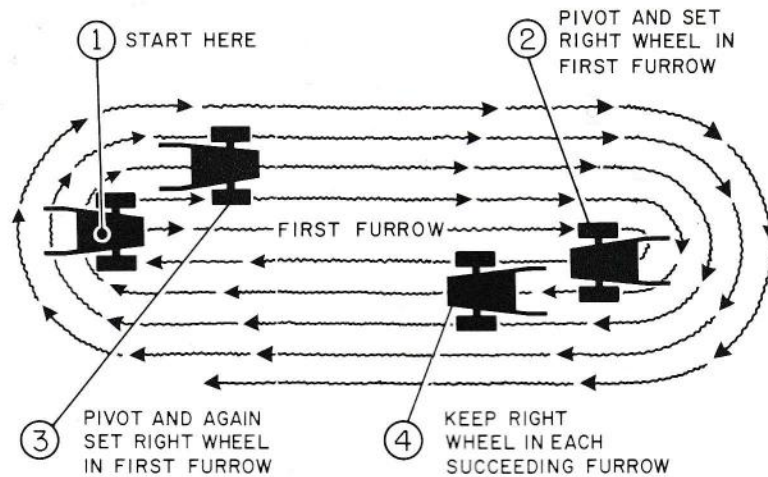

Figure 22
thrown toward the center (see Figure 22).
1. Leave the Plow Angle Adjusting Assembly (upper left in Figure 22) attached.